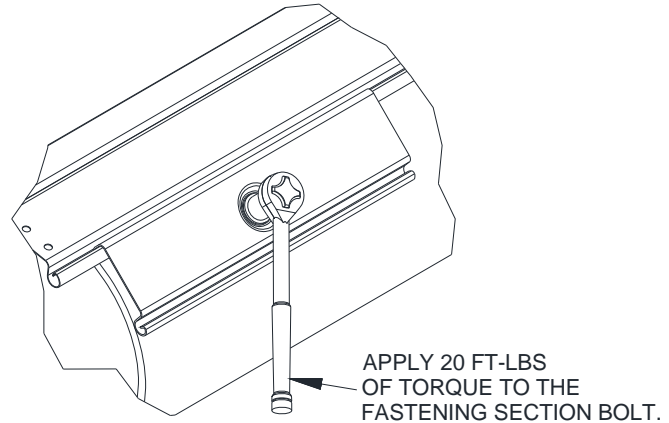

Figure 8.1 - Installing the Fastening Section
6. Uncoil the curtain enough for the fastening sections to reach the attachment points on the shaft. Fasten them by aligning the fastening section with the hole in the shaft, and fasten using the provided hardware (See **Figure 8.1**). If the curtain is too heavy to uncoil by hand, use the method described in the following step to get the fastening sections in position.